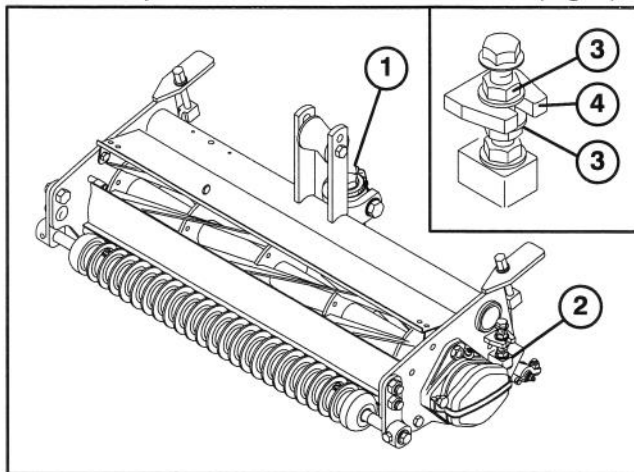

Figure 1
(Fig. 1 & 2)
2. Make sure reel contact is removed by turning bedknife adjustment knob counterclockwise (Fig. 1).
4. Loosen locknuts retaining L.H. bedbar pivot housing (Fig. 1).
5. Rotate flange nuts (Fig. 1, inset), on top and bottom of frame tab, clockwise or counterclockwise to raise or lower end of bedbar, as required. Do not loosen bottom flange nut. Tighten flange nuts against frame tab when desired adjustment is attained.